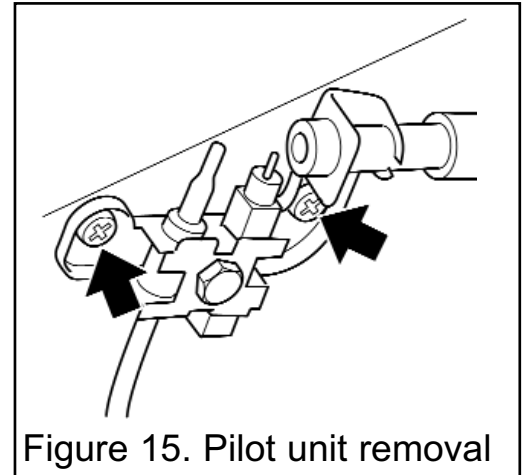

Figure 15. Pilot unit removal
5. Remove the two screws securing the pilot unit (See figure 15).